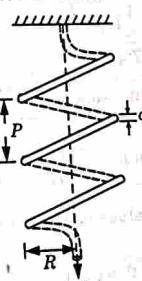

Fig. 5.8.1. Open coiled helical spring.
3. Now consider an open coiled helical spring subjected to an axial load as shown in Fig. 5.8.1.